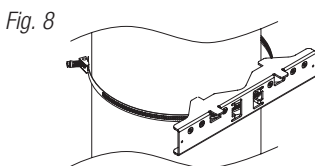
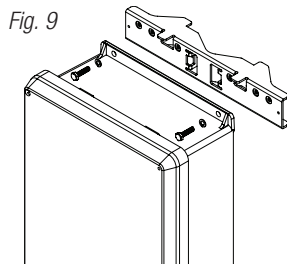

Fig. 8
Fig. 9
2. Once the desired height of the top Pole Mount bracket is achieved, tighten the straps down by sliding open end of the strap through the locking mechanism on the strap, then tighten the screw with flat head screwdriver or 5/16" hex socket driver (Fig. 8, pg. 8 and Fig. 9, pg. 8).
3. Attach the bottom bracket to the enclosure by inserting bolts through the flange of the enclosure and into the bracket, tightening bolts with a 7/16" hex socket (Fig. 9, pg. 8).
5. Mount enclosure onto the top bracket by inserting bolts through flange of the enclosure and into the bracket, tightening bolts with a 7/16" hex socket (Fig. 8, pg. 8).
6. Tighten the straps of the bottom bracket down by sliding the open end of the strap through the locking mechanism on the strap, then tighten screw with flat head screwdriver or 5/16" hex socket driver (Fig. 9, pg. 8).